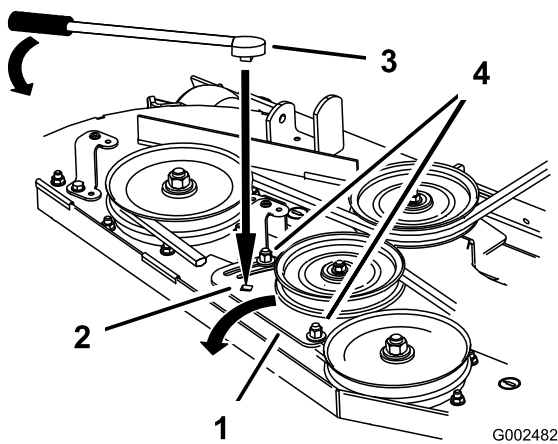

Figure 57
5. If adjustment is required, loosen the mower idler plate and adjust it (Figure 57).
6. Insert a ratchet or breaker bar into the square hole in the mower idler plate to adjust the tension (Figure 57).
7. To increase belt tension, rotate the mower idler plate until resistance is felt and rotation stops. Do not go past when it stops (Figure 57).
8. Tighten the idler plate bolts (Figure 57).
10. Adjust the belt tension and the idler plate, if necessary, and tighten all hardware securely (Figure 57).